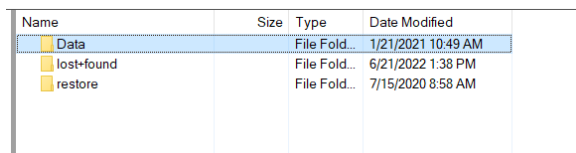

Figure 12. Archive folder
3. Open the **ARCHIVE** folder and you will see a screen like figure 12.